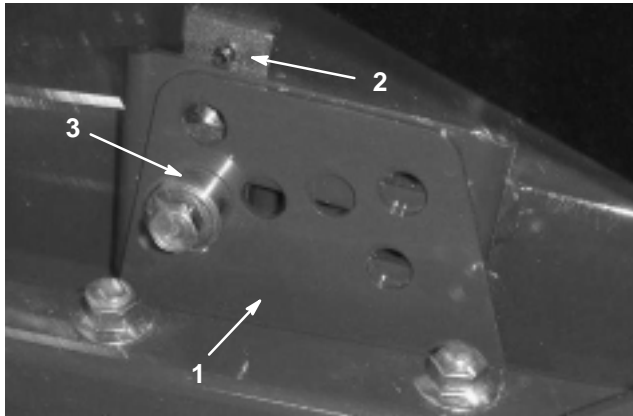

Figure 2
2. Loosen capscrew securing each height of cut bracket to height of cut plate (front and each side) (Fig. 2).
4. While supporting chamber, remove spacer (Fig. 2).